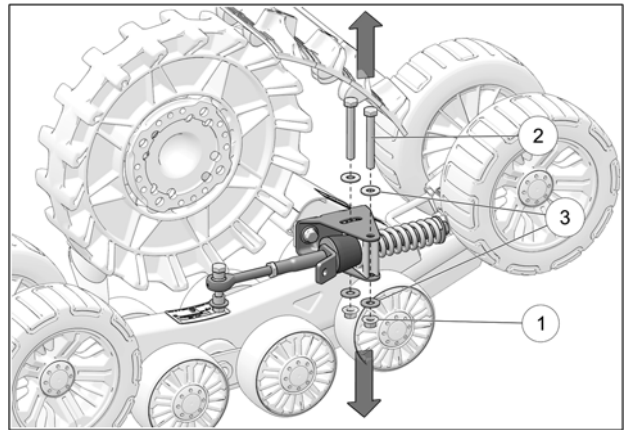

Fig. 12
4. Loosen and remove nuts (1), bolts (2), and washers (3) securing anti-rotation arm to front Track system. See Fig. 12